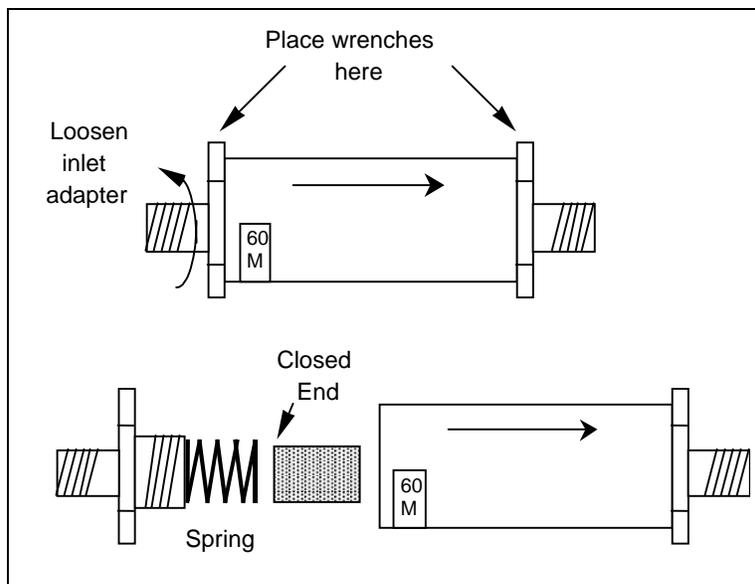

Figure 39: Replacing the In-Line Filter Element
5. Position the 3/4" wrenches on the ends of the filter (see Figure 39). Loosen the adapter on the inlet side of the filter.